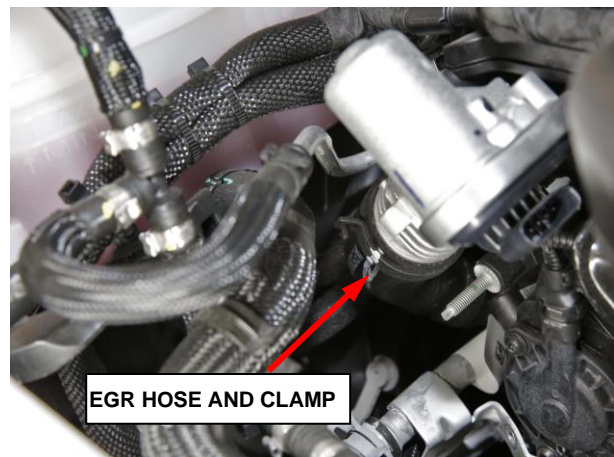

Figure 10 – EGR Hose and Clamp
14. Disconnect the EGR hose from the EGR valve (Figure 10).
3. Connect the EGR hose to the EGR valve (Figure 10).